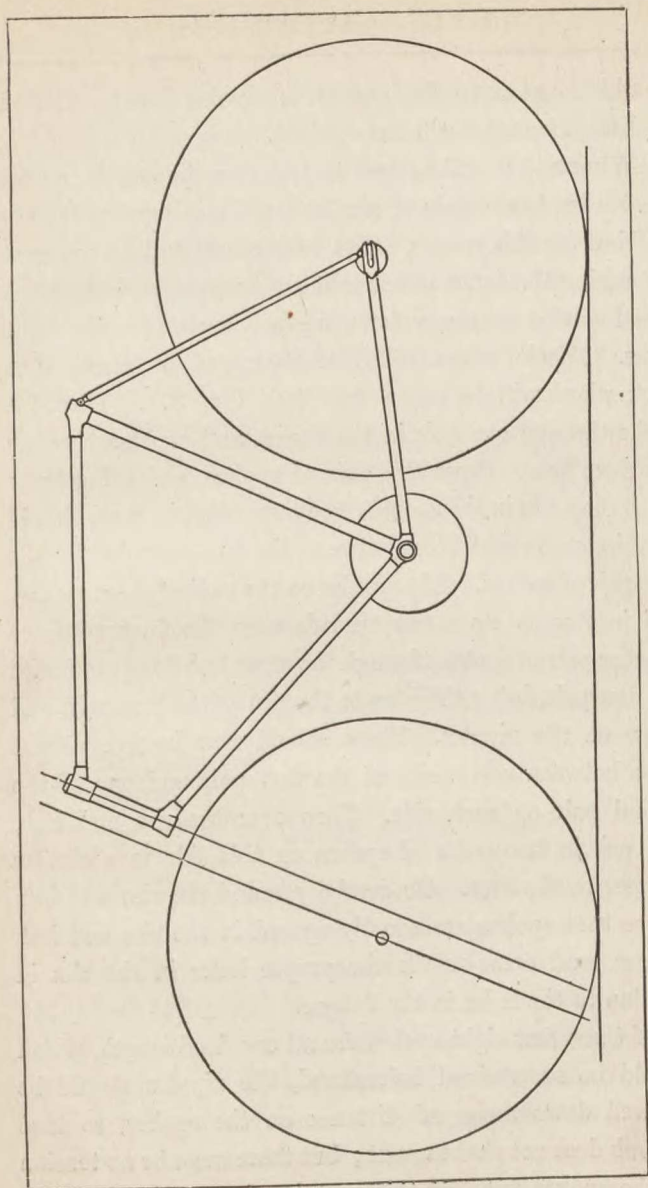

Fig. 36.—Working Drawing of Bicycle
**Working Drawing.**—The first thing to do is to decide on the size of frame required, and make a full-size drawing (Fig. 36). The average-size frame is 24 in., measuring from the centre of the bracket to the top of the seat lug; this suits a rider of 5 ft. 6 in. to 5 ft. 8 in. A shorter or taller rider will require a corresponding shorter or taller frame. Make the drawing full size in chalk on a wall or board. No details are necessary; but simply a line drawing to assist in cutting tubes and fitting up to the correct angle and lengths. Mark the ground line. 14 in. above this describe a 28-in. circle for the back wheel (that is, if 28-in. wheels are decided on), mark the bracket centre 12 in. from the ground line, and at a distance from the back-hub centre to give the centre decided on. Draw a line from the bracket centre to the hub centre to represent the back forks. Knock together temporarily the seat tube into the bracket and all the front tubes and lugs, as this will be the best guide for filling in the other lines to the correct angle to suit the lugs being used. Draw a line through the centre of the head tube parallel with the down tube, to represent the steering angle. In front of, and parallel to, this draw another line at a distance equal to the amount of curve on the front-fork blades. On this line, 14 in. from the ground line, will be the front-wheel centre. The position of the top tube will, of course, vary with the height of the frame being built; but should be parallel with the ground line, unless a racing frame with sloping top tube is desired,